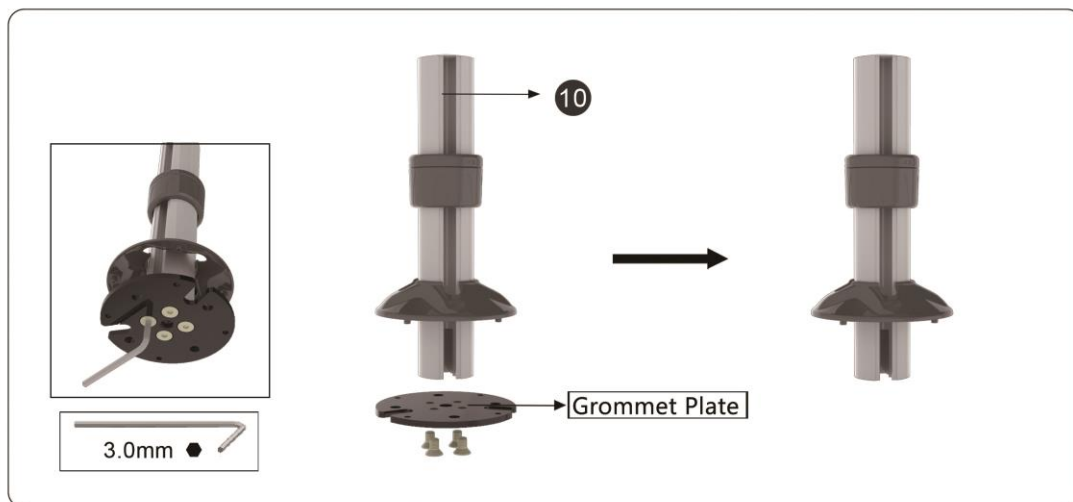

Figure 1-1
1. Unscrew and remove the grommet plate using the provided 3mm Allen wrench (**See Figure 1-1**).